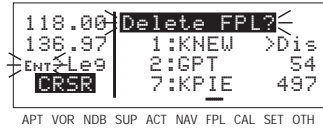

Figure 4-22
- Press **CLR**. The words **Delete FPL?** will appear at the top of the page (figure 4-22). If a mistake was made and you do not wish to clear this flight plan, press **CLR** again.